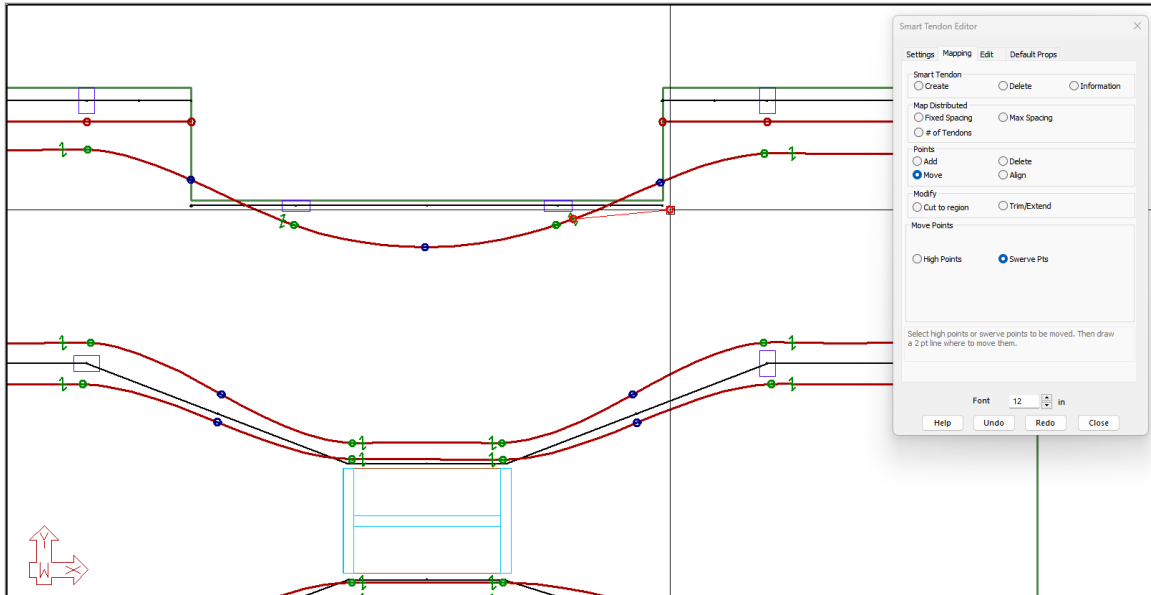

FIGURE 9-68
- Move the swerve point up and to the right so it is just inside of the reentrant corner, as shown in **FIGURE 9-68**.